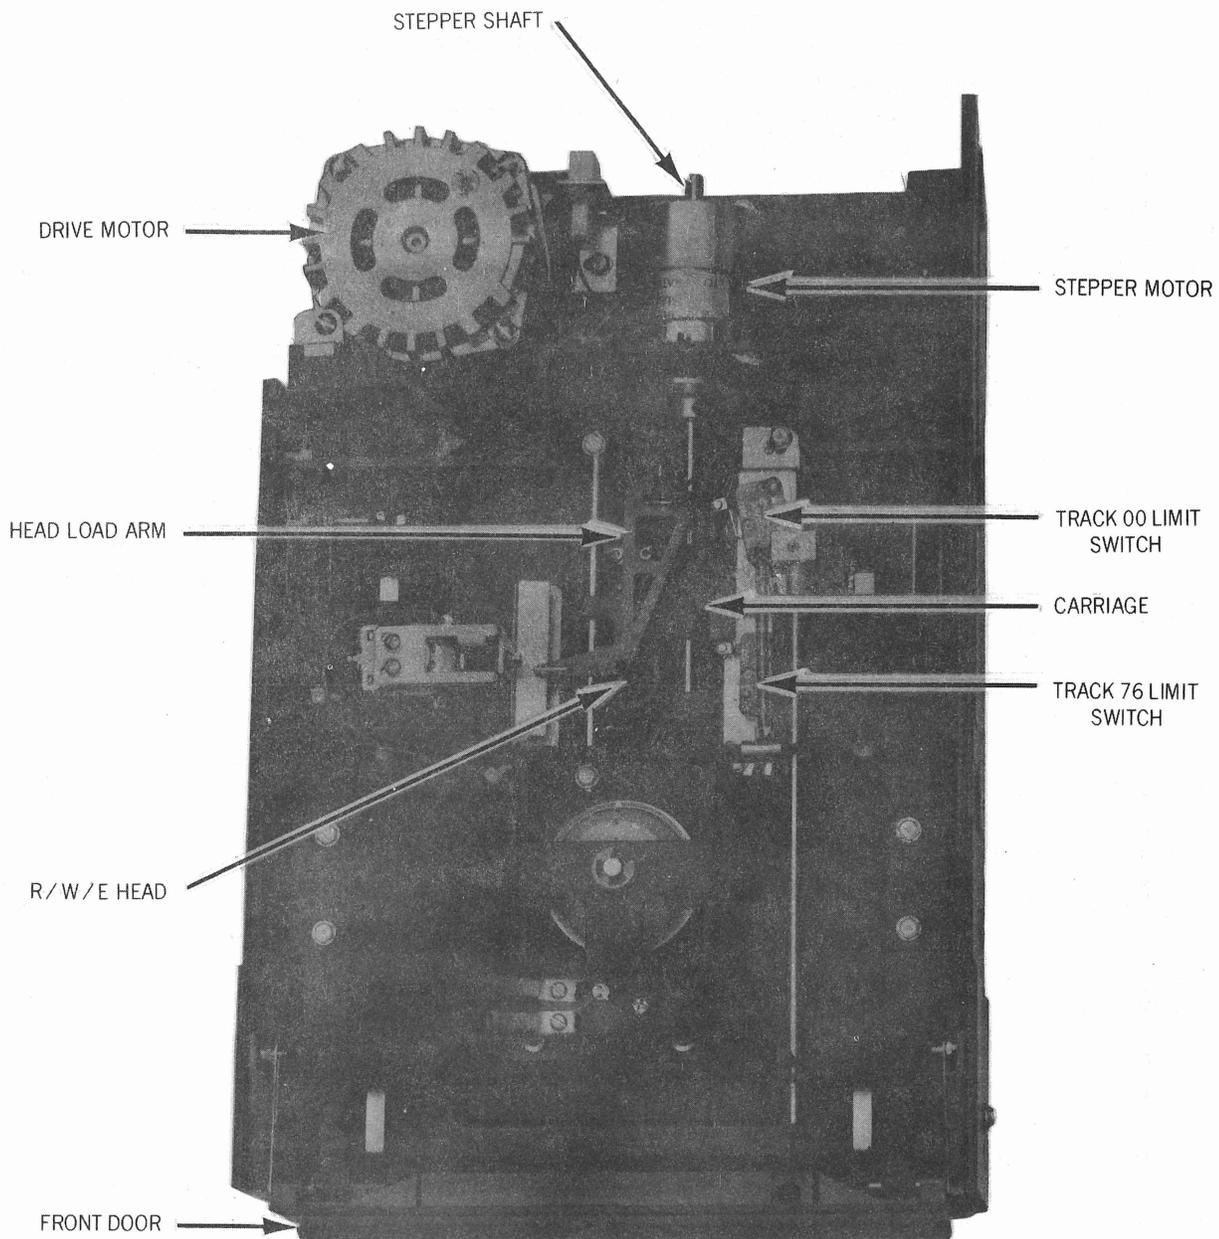

Fig. 5—Top View of FD 700
**2.12** This section describes the FD700 Flexible Disk Drive (FDD) (Sykes part #1030C3013), which is an integral part of the Comm-Stor II unit (Fig 5).